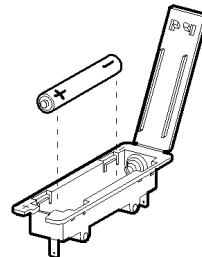

Fig.4
1. The battery holder is located at the front left hand side of the bottom storage compartment (see Fig. 4).
3. From inside the bottom compartment fit the 1.5 volt battery (see Fig.4) ensuring it is fitted as indicated by the symbols on the battery holder.